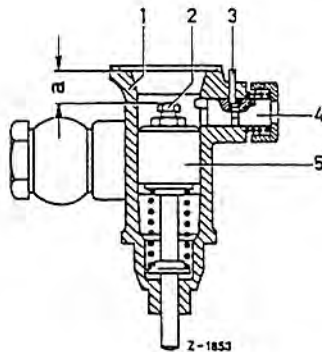

Fig. 00-16/24
2. To remove the slide valve on the ZEA pump unscrew the threaded union (55) and take out the spring (54) (Fig. 00-16/22). Turn in a coil spring with an outside diameter of 12 mm, in the opposite direction to the twist, then lock it by turning it in the direction of twist and pull out together with the slide valve. Do not use sharp-edged objects, such as screws, which would damage the bore.
In the case of ZEB injection pumps unscrew the cooling water thermostat from the control slide valve housing and measure the distance (a) from the separating surface of the control slide valve housing to the adjustment screw (2) (Fig. 00-16/24). Then pull the notched pin (3) out of the control slide valve housing and the eccentric stop bolt (4) as far as the oil filler screw. Then pull the control slide valve (5) together with the adjustment screw out of the control slide valve housing and, depending on the temperature difference between the cooling water temperature measured and the prescribed value of 68° C, turn the adjustment screw in or out. Turn the screw in if the temperature is below 68° C, turn it out if it is higher.